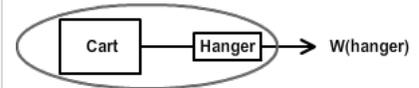

Figure 8 – The System Mass
3. We don't know the net force on either object but if we look at the cart, string, and hanger as one system, there is only one unbalanced, external force acting on the system – the weight of the hanger. (The cart's weight and normal force cancel.) So our system behaves the same as the one shown in Figure 8 where the masses of the cart and hanger make up the total mass and the weight of the hanger is the net force.